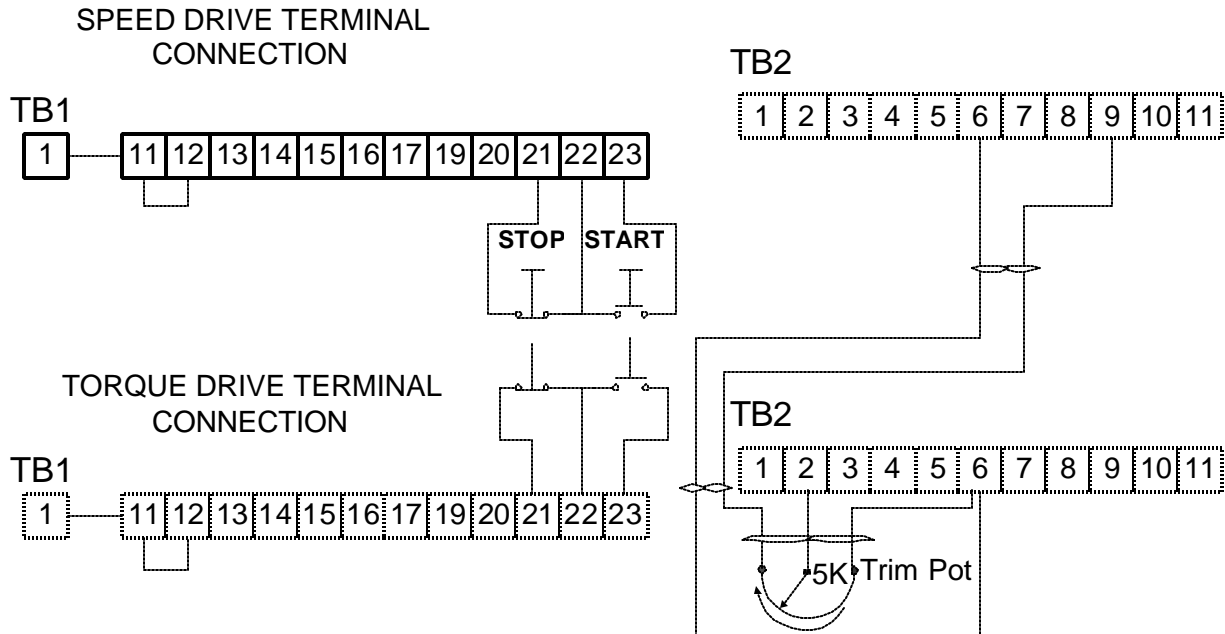

Figure 2.2.1b. Terminals connection operate with KEYPAD for section 2.2.1b
- ? If you want to adjust the output torque externally than set **P312**, "Internal Torque" to **100%** and connect a 5K trim pot as shown figure 2.2.1b.